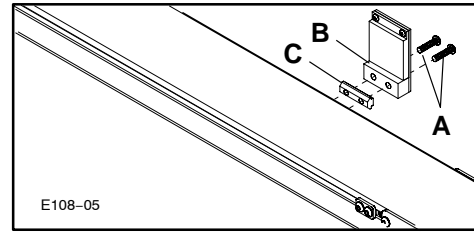

Figure 5: Reflector Attachment
- d. Refer to Figure 5 and attach Reflector with Mounting Bracket to Drop-in T-bar, using the two M6 x 30 mm Button Head Cap Screws (A). Tighten the Screws with the 4 mm Hex Key Wrench provided.